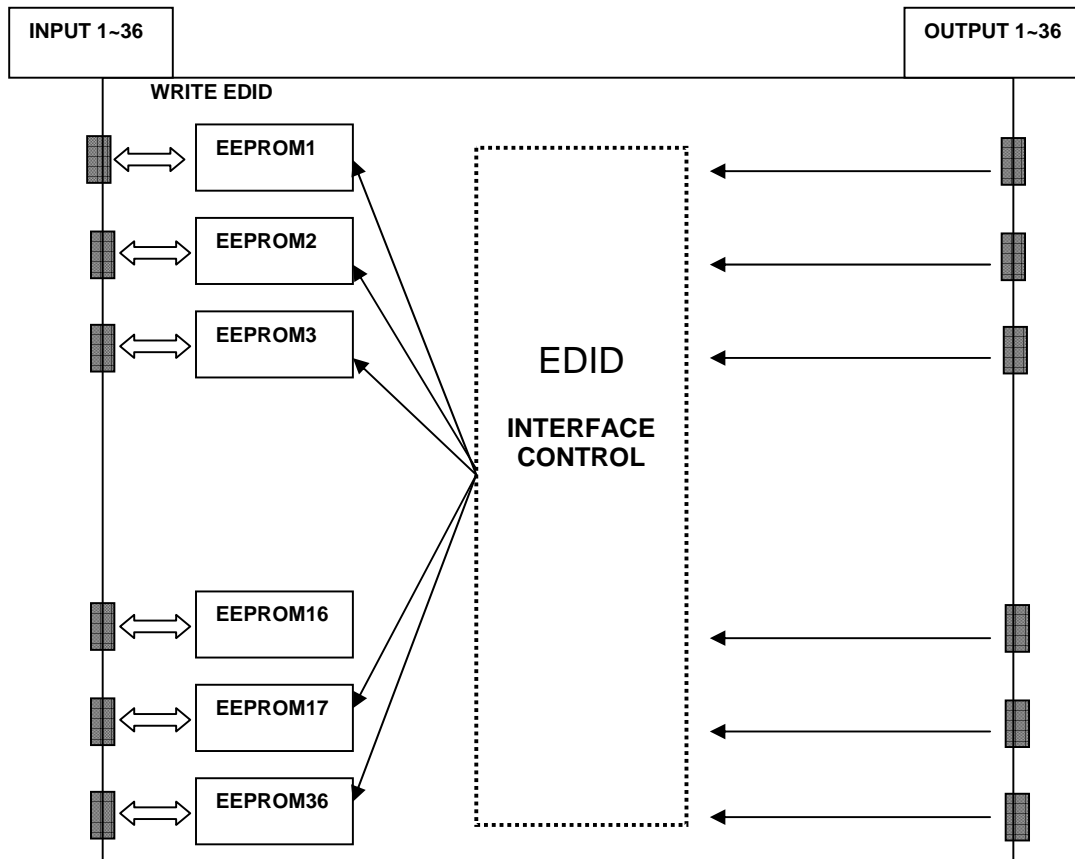

Figure 1-3 Concept drawing for setting EDID in ODM3636
- As depicted in Figure 1-3, once EDID is configured, each EDID is stored in EEPROM at the front of the DVI Input. As a result, the video sources are able to read EDID from the EEPROM during boot-up; even though the ODM3636 and connected displays are not powered on yet.